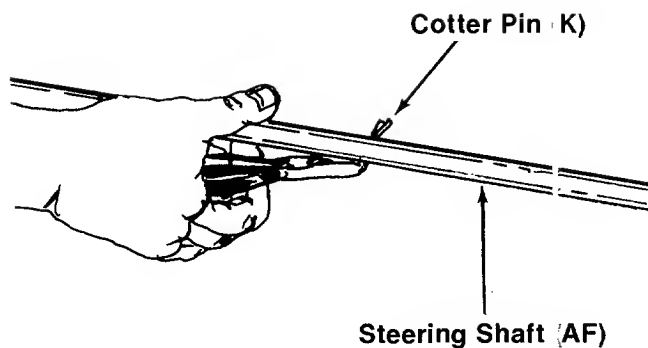

FIGURE 4.—Style A Only
1. Insert the **cotter pin (K)** into the hole on **steering shaft (AF)**. Secure in place by bending the ends of the cotter pin in opposite directions. See figure 4.